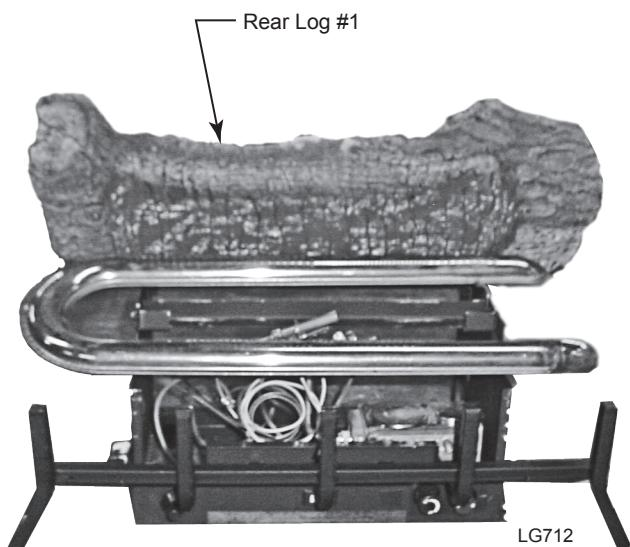

Figure 24 -
1. Place Rear Log (#1) on rear support. *Figure 24*